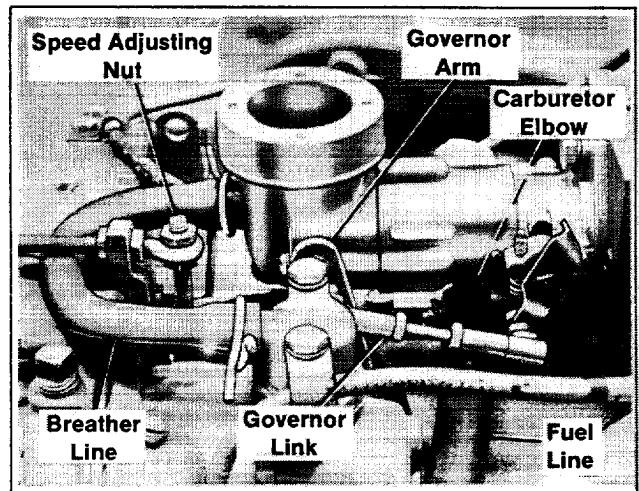

Figure 3. Mounting LP-Gas Parts
3. Reconnect breather line and governor link. See Figure 3.
ment of speed is possible. To increase speed, loosen the inside speed adjusting locking nut and tighten the outside nut (see Figure 3) to draw the eyebolt closer to the bracket; to decrease speed, loosen the outside locking nut and tighten the inside nut. After speed is correctly set at 64 Hz no load and 62.5 Hz at approximate maximum load, tighten the nut that was loosened to lock the eyebolt at the new setting.
If the governor is too sensitive, speed surging will occur with change in load. If a big drop in speed occurs when normal load is applied, the governor should be set for greater sensitivity. Sensitivity is changed by repositioning the sensitivity adjusting eyebolt as shown in Figure 3. To make the governor control more sensitive, loosen the upper nut and tighten the lower nut to force the eyebolt downward. Recheck speed after making sensitivity adjustment. Retighten nut that was loosened to lock eyebolt at the new setting.